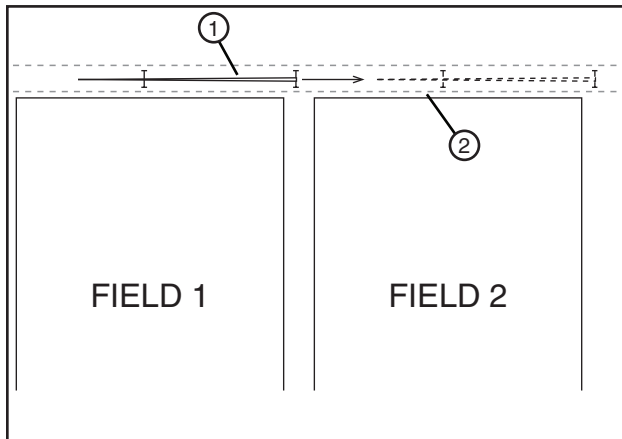

Figure 62-1 1. Machine
1. Position the machine in the tow lane. See figure 62-1.